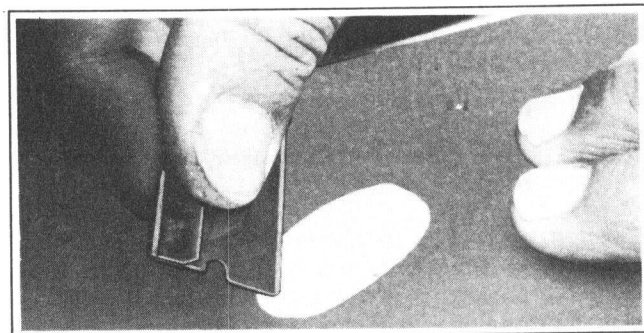

Figure 4-5. Spreading Gel Coat Evenly.
8. Spread the gel coat level with the surrounding area and allow to cure (30 - 60 minutes). See Figure 4-5. Gel coat can be covered with cellophane, if desired, to aid in spreading evenly. Remove cellophane after gel coat has cured.